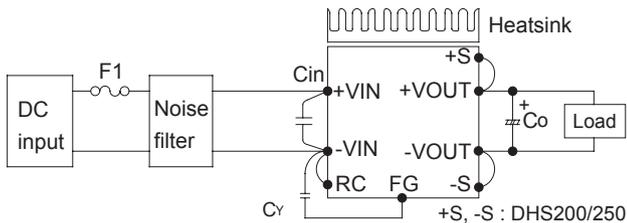

Fig.1.1 Connection for Standard Use
■ In order to use the power supply, it is necessary to wire as shown in Fig.1.1 and external components in table1.1.